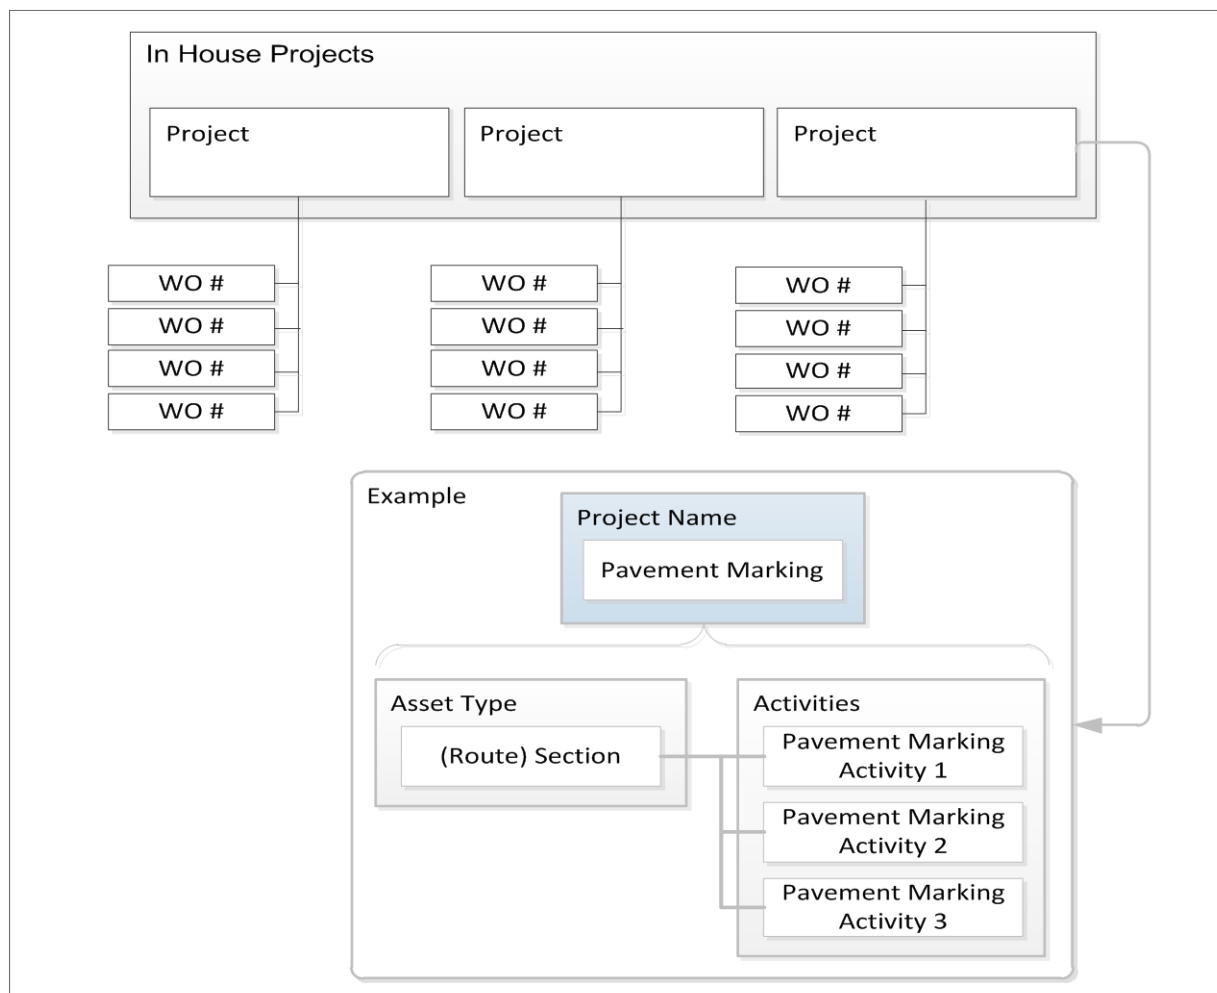

Figure 1-1. Overview of Roadway Project Structure
- ❖ In the Roadway module, the **Project** is the highest level in the work-tracking hierarchy (Figure 1-1). For each Project, one or more Asset Types are defined, and specific Activities from the *EIMS Master Activity Codes* list are selected.
The next level of detail for recording work in the Roadway Module is the **Work Order**. The **Work Order** specifies an **Activity** type (from the ODOT Master Activity Code List) to be performed and its planned duration. **Work Orders** have a many to one relationship with a **Project**, as shown in Figure 1-1. It is also important to note that in EIMS a **Work Order** is one **Activity** type.